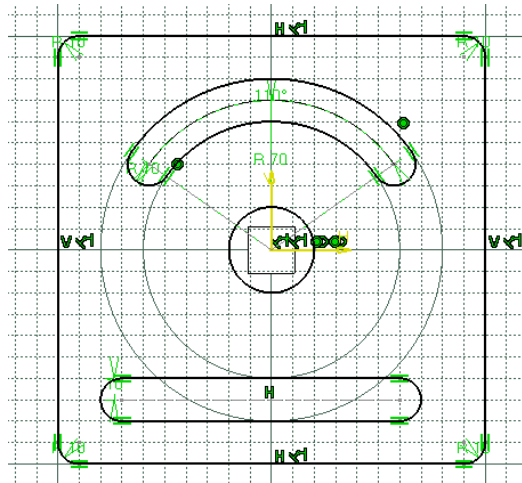

Figure 3-48 The final sketch
13. Now, press the TAB key five times and enter the value **10** in the **Radius** edit box. Next, press the ENTER key; the final sketch is created, as shown in Figure 3-48.